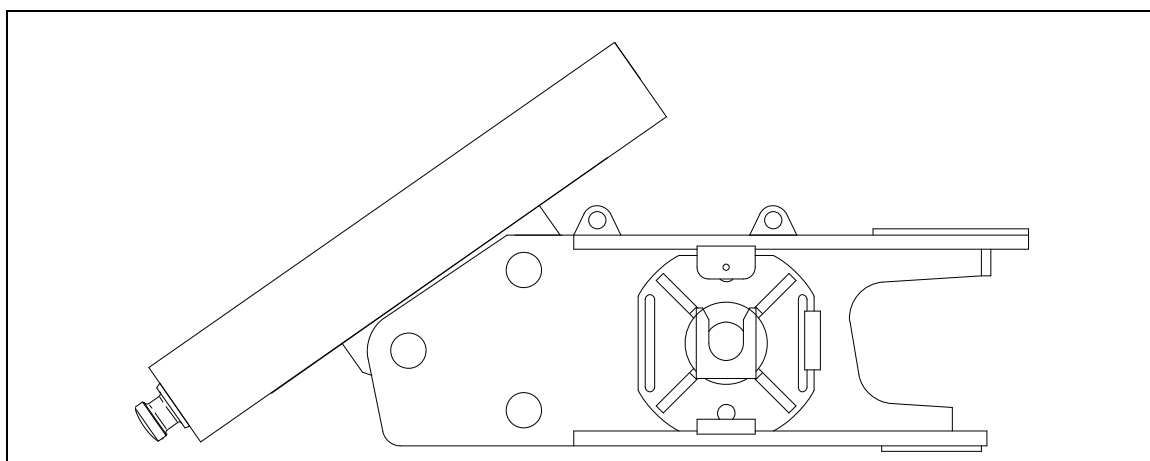

Figure 5-16 Folding brackets to be dismantled
- a) Retract support cylinders, put support plates on the attachment points at the side of folding brackets, disconnect hydraulic connection of folding brackets and tilt support cylinder. See the figure 5-16.